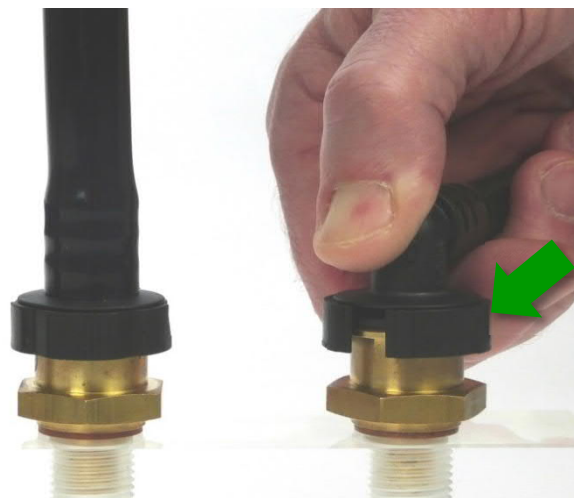

Fig. 32
- ⚠ Lines must be sufficiently flexible to guarantee the required minimum free space (fig. 32) for VOSS quick connect system 246^{NX} above the connecting port.